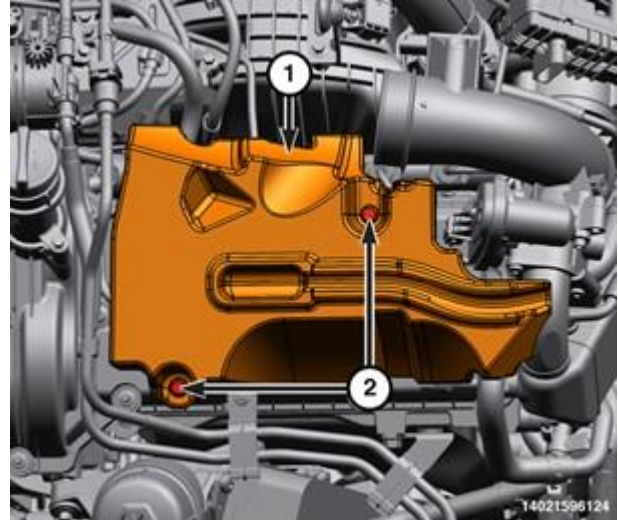

Figure 64 – Left Bank Fuel Rail Cover Bolts
- 114. Install the left fuel rail cover (1) and securely tighten the bolts (2) (Figure 64).